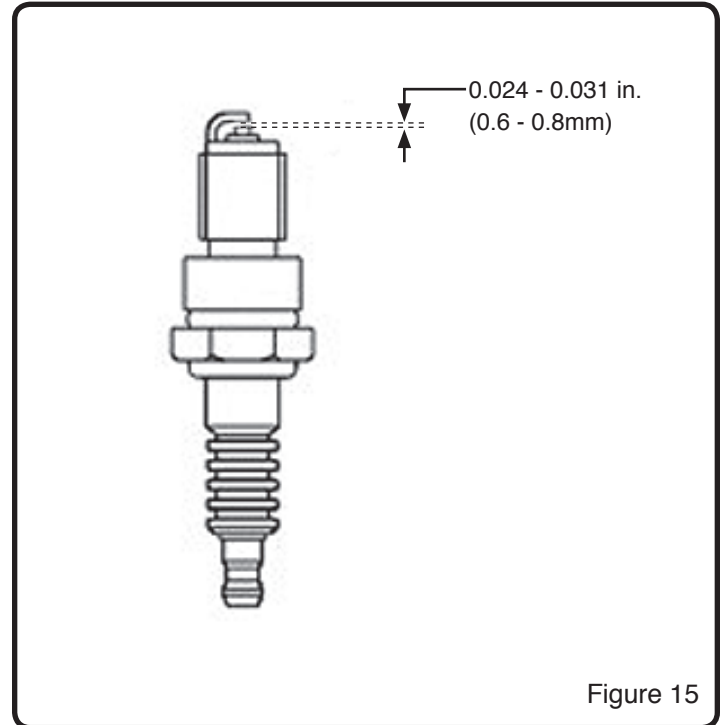

Figure 15
6. Check that the gap of the spark plug is 0.024 - 0.031 in. (0.6 - 0.8mm). (Figure 15)